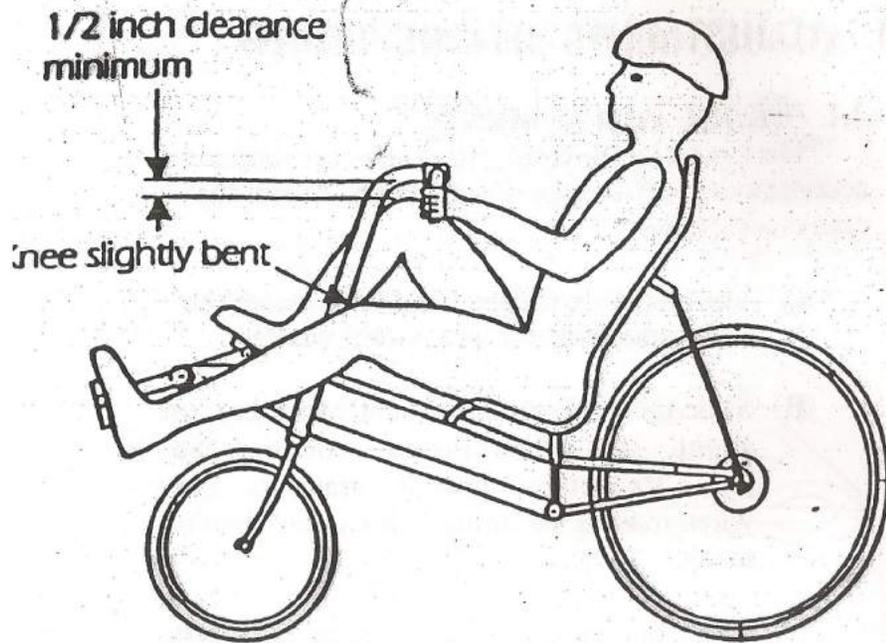

Fig. 2-1
- B) Slide the cranks in or out until your legs are slightly bent at their furthest extension (See Fig. 2-1). It's better to have the cranks too close when making the initial adjustment than too far away.
- B) Adjust the handlebars up or down so that there is approximately 1/2 inch of clearance between your knees and the handlebars (see Fig. 2-1).